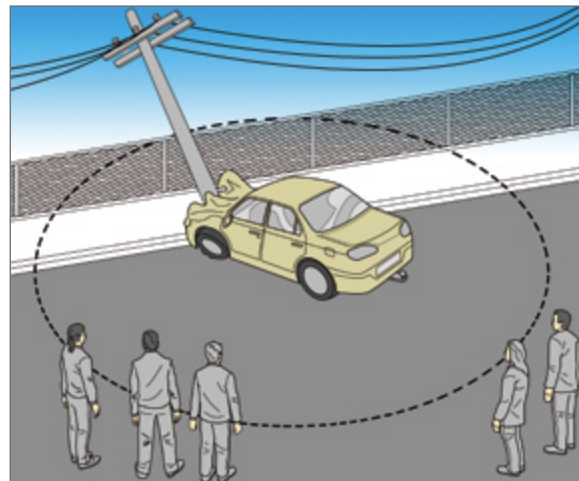

Figure 8: Keep the public at least 8m from any fallen overhead lines.
- Level 1 *emergency services personnel* and everyone not directly involved keep well clear - at least 8m (see *MAD's* section 6.6 and Figure 8);